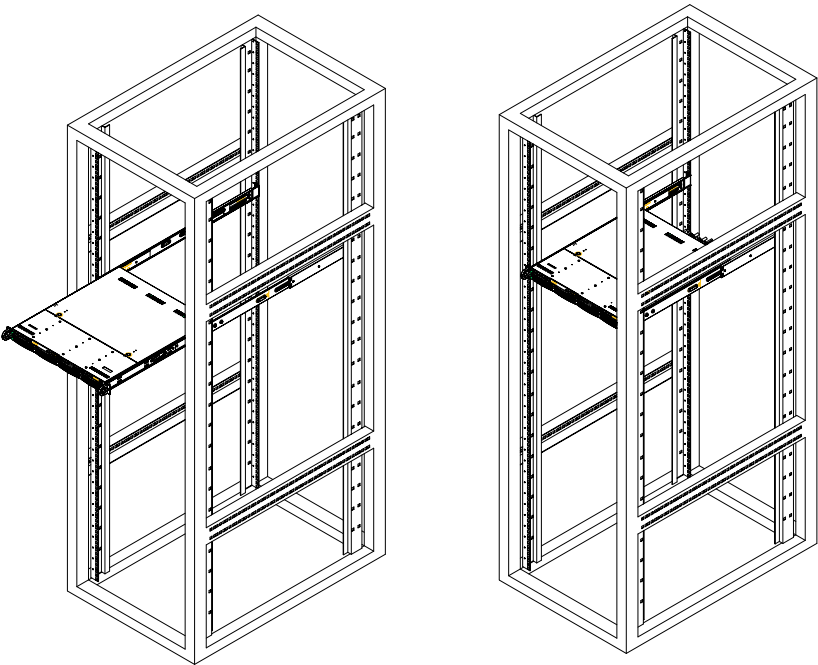

Figure 2-2. Installing the Server into a Rack
2. Screw the front chassis rail (the long piece) securely to the side of the chassis (see Figure 2-2). There should be two screws for each side. Repeat this procedure for the other rail on the opposite side of the chassis.
- 2. Slide the chassis rails into the rack rails, keeping the pressure even on both sides (you may have to press the locking tabs when inserting). See Figure 2-2.